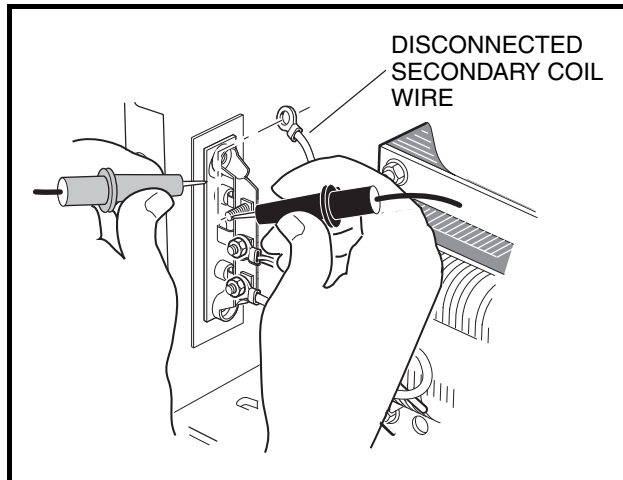

Figure 3-18 Diode Test
3. Disconnect one transformer secondary coil wire from the diode terminal (**Figure 3-18, Page 3-21**).
4. Using a low voltage continuity tester or multimeter set to the diode test function, connect the red (+) test probe to the diode mounting plate and the black (–) test probe to a diode terminal and note the reading (**Figure 3-18, Page 3-21**).